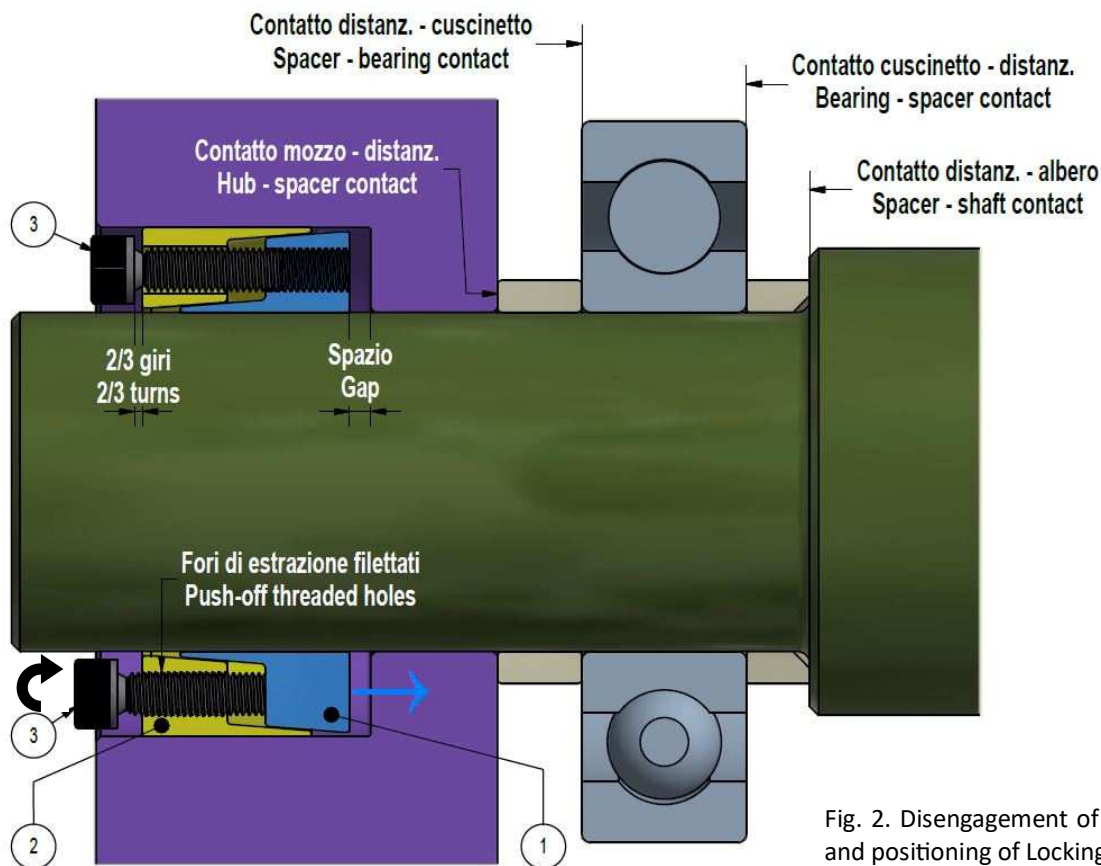

Fig. 2. Disengagement of locking rings and positioning of Locking Assembly.
2. **For ease of installation, locking rings shall be disengaged** (fig. 2). Loosen all screws by two/three turns; then transfer and hand-tighten at least two screws into the push-off threaded holes in the outer ring.
3. Insert Locking Assembly into the hub bore and make it slide onto the shaft, making sure that connected components are positioned as required. **Inner and outer rings shall be completely supported by shaft respectively hub bore** (fig. 2). **The rear face of the hub shall be in full contact with the adjacent element; the elements adjacent to the hub shall be axially fixed on the shaft** (fig. 2). At this point, relocate the screws used to disengage the locking rings. Installation into hubs with shoulder requires a few mm's gap between inner ring and shoulder (fig. 2).